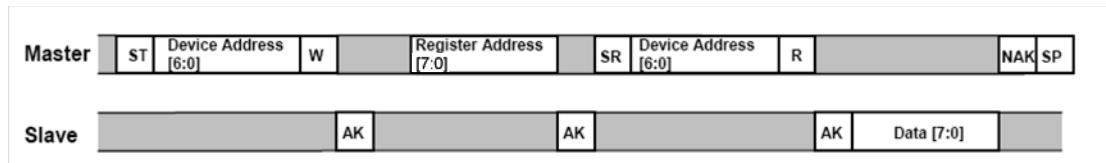

Figure 7. Single Byte Read - The Master is reading one address from the MMA7455L
The MMA7455L has an 10-bit ADC that can sample, convert and return sensor data on request. The transmission of an 8-bit command begins on the falling edge of SCL. After the eight clock cycles are used to send the command, note that the data returned is sent with the MSB first once the data is received. Figure 7 shows the timing diagram for the accelerometer 8-bit I²C read operation. The Master (or MCU) transmits a start condition (ST) to the MMA7455L, slave address (\$1D), with the R/W bit set to "0" for a write, and the MMA7455L sends an acknowledgement. Then the Master (or MCU) transmits the 8-bit address of the register to read and the MMA7455L sends an acknowledgement. The Master (or MCU) transmits a repeated start condition (SR) and then addresses the MMA7455L (\$1D) with the R/W bit set to "1" for a read from the previously selected register. The Slave then acknowledges and transmits the data from the requested register. The Master does not acknowledge (NAK) it received the transmitted data, but transmits a stop condition to end the data transfer.